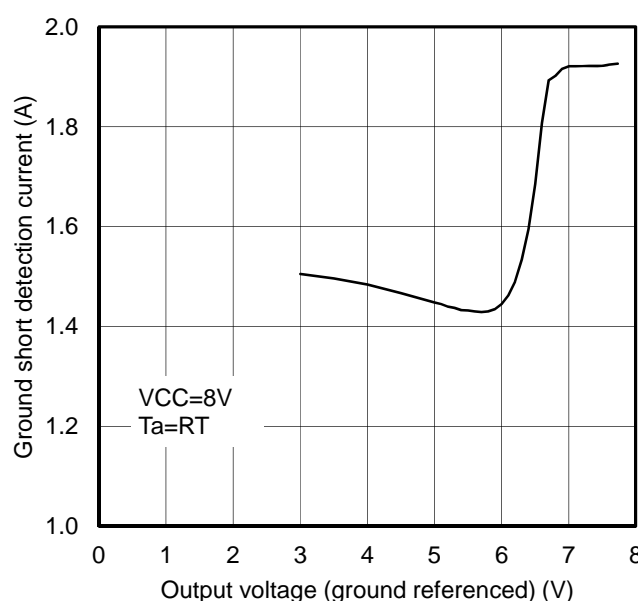

Figure 25. Output voltage vs Ground short detection current
- Ground-fault occurs when SOURCE-side POWER MOS is ON, and the ground-fault protection is performed if ground-fault current is detected. Here, the output is OFF-latched. Note that the ground-fault detection current is dependent on the output voltage. See Figure 25.